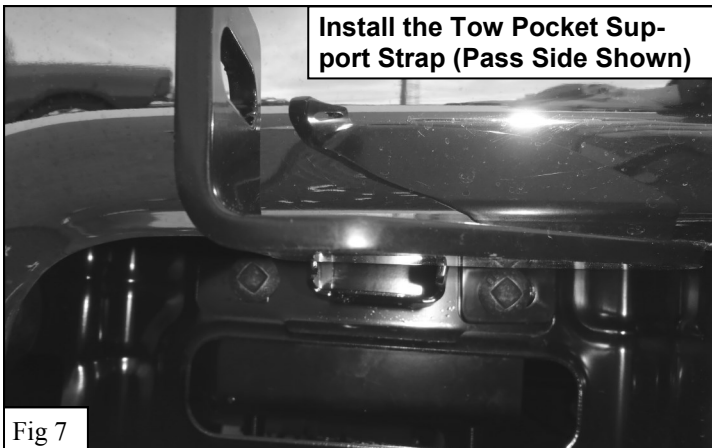

Fig 7
6. Insert the Tow Pocket Support Straps into the openings in the front of the bumper and line up the mounting hole with the slot in the bumper bracket. Re-use the factory carriage bolts and nuts to secure these brackets. Attach all hardware loosely (Figure 7).